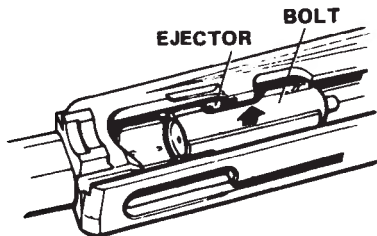

Figure 4
5. To remove the bolt, the ejector (C-8) must be pressed out of the way of the bolt or it must be removed by first removing the ejector screw (C-9). To be disassembled from the receiver, the bolt must be positioned about half way between its forward and rear positions, as shown in Figure 4. Then, with the bolt in this position and the ejector pressed out of its way (or removed), the bolt may be rolled toward the ejection port side of the receiver and lifted clear.